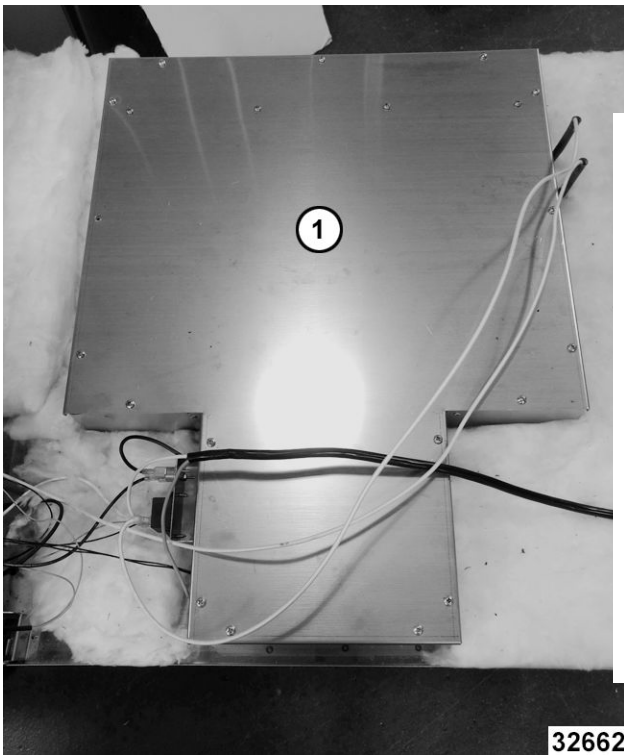

Fig. 7
4. Remove inside access cover (1, Fig. 7).